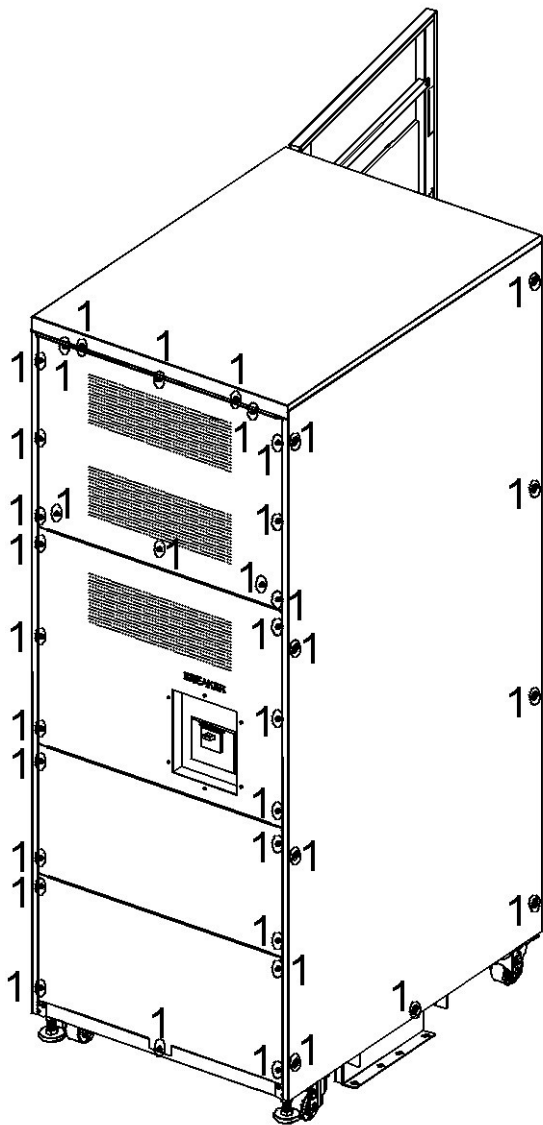

Figure 5-43A
1. Remove all screws labeled 1 (Figures 5-43A and 5-43B).